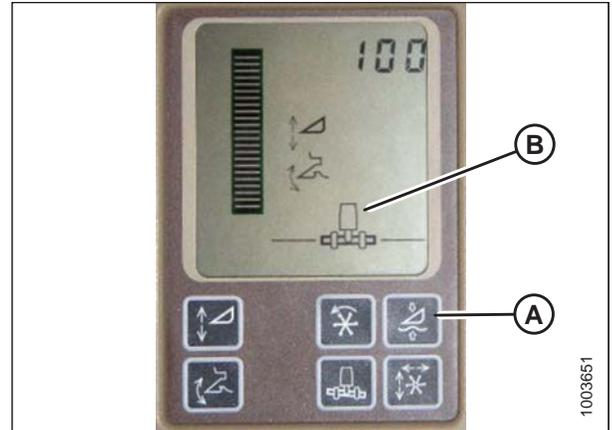

Figure 3.190: John Deere Combine Display
Do **NOT** use active header float function (A) in combination with MacDon auto header height control (AHHC)—the two systems will counteract one another. The header symbol (B) on display should **NOT** have a wavy line under it and should appear exactly as shown on Active Header Control Display in Figure 3.190, page 141.